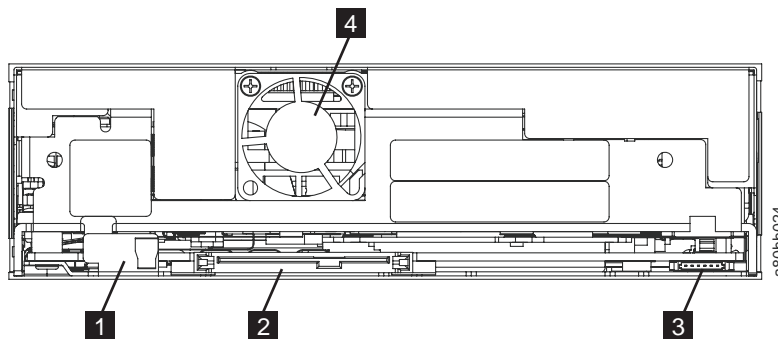

Figure 169. Rear panel of the SAS Half Height drive
4. Disconnect the internal SAS cable (**2** in Figure 169).
5. If connected, disconnect the internal LDI (RS-422) cable from the LDI (RS-422) connector (**3** in Figure 169).